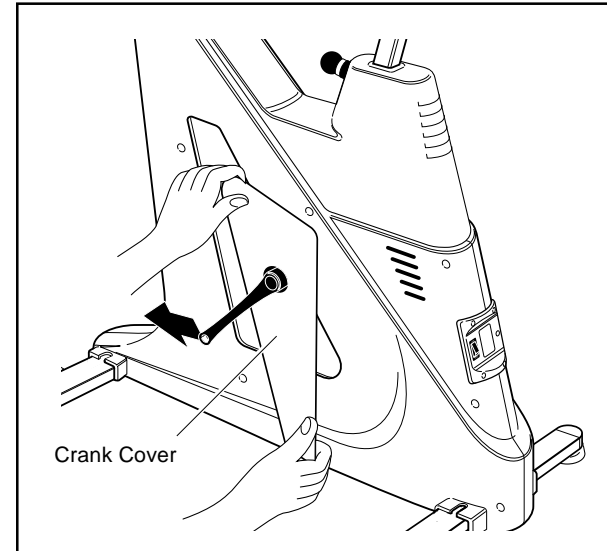

Fig. 2
5. Pass the crank through the hole on the crank cover, and fix the crank cover onto the frame cover with screws. (Fig. 2)